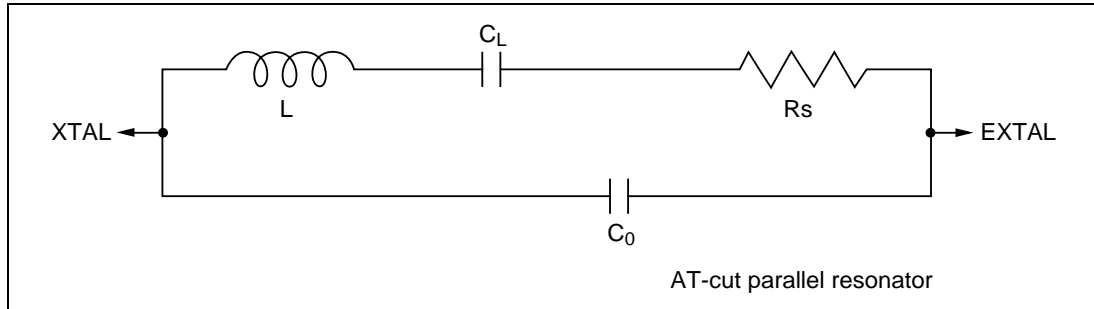

Figure 9-3 Crystal Resonator Equivalent Circuit
(2) Crystal Resonator: Figure 9-3 shows an equivalent circuit of the crystal resonator. The crystal resonator should have the characteristics listed in table 9-2. Use a crystal resonator with a frequency equal to the system clock frequency (ϕ).